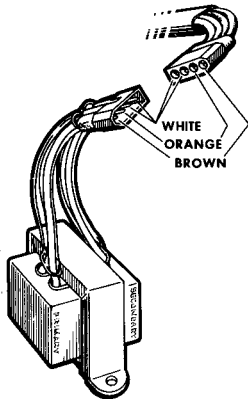

Figure 34 - Light Source Transformer and Connector
1. Measured voltage across the orange and brown leads in the female terminals portion of the connector block should be approximately 115 volts (line voltage). See figure 34.